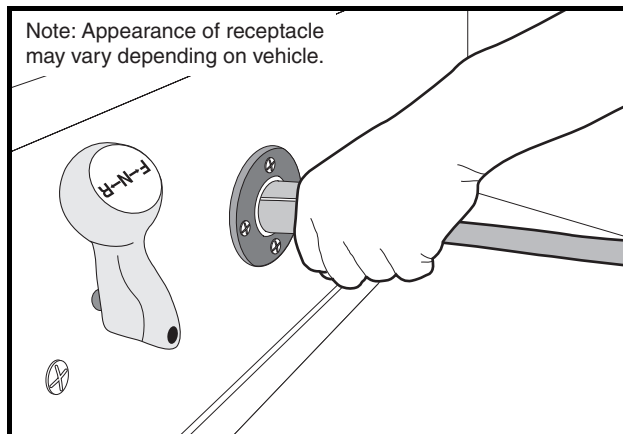
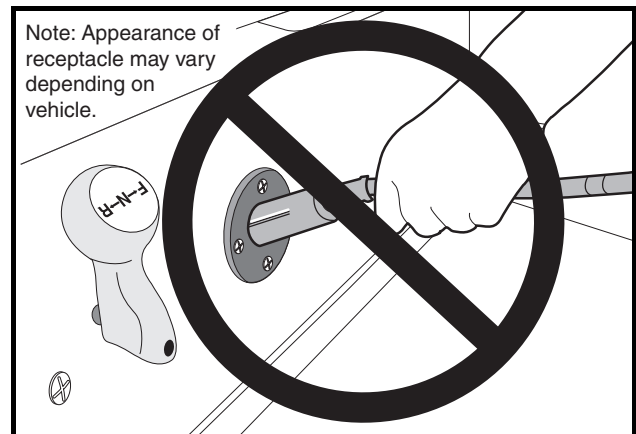

Figure 5-4 Charger Receptacle
Figure 5-5 Incorrect DC Plug Removal
- The battery charger DC plug must be pulled slowly from the receptacle (Figure 5-4, Page 5-5). Jerking or pulling the DC cord out quickly could cause arcing that could damage the plug and receptacle and could cause batteries to explode (Figure 5-5, Page 5-5).
- **The charger plug must be pulled slowly from the receptacle (Figure 5-4, Page 5-5). Jerking or pulling the DC cord out quickly could cause arcing and burning that could damage the plug and receptacle and could cause batteries to explode (Figure 5-5, Page 5-5).**
- **Do not rock or bend the plug. To connect the charger plug to the vehicle receptacle, grasp the plug handle and push the plug straight into the receptacle (Figure 5-4, Page 5-5).**
- **Do not pull on the DC cord (Figure 5-5, Page 5-5). Do not twist, rock or bend the plug. To disconnect the charger plug from the vehicle receptacle, grasp the plug by the handle and pull the plug straight out of the receptacle.**
2. Connect the charger DC plug to the vehicle charger receptacle located on the seat support panel (**Figure 5-4, Page 5-5**). The charger will activate automatically within 2 to 15 seconds after the DC plug is connected. **See following WARNING.**
- **Do not rock or bend the DC plug. To connect the charger plug to the vehicle receptacle, grasp the plug handle and push the plug straight into the receptacle (Figure 5-4, Page 5-5).**